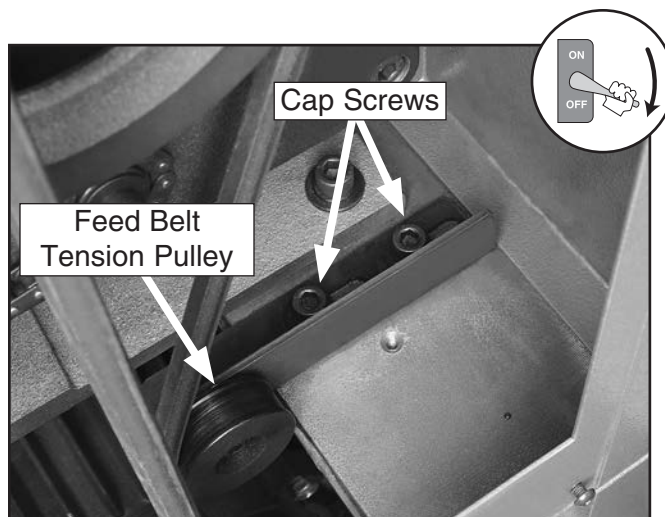

Figure 28. Feed belt mounted on feed belt tension pulley (top left access panel removed).
- Note:** Make sure to remount the smaller feed belt on the outside of the feed tension pulley as shown in **Figure 28**.
5. Reach through the top left access opening and loosen the two cap screws on the feed belt tension assembly (see **Figure 28**).